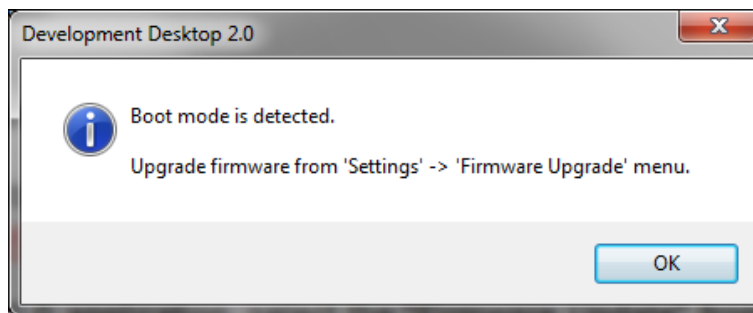

Figure 7 : Development Desktop 2.1_Boot mode
- 3) Click on “OK” button in the boot mode detected screen (Figure 7).